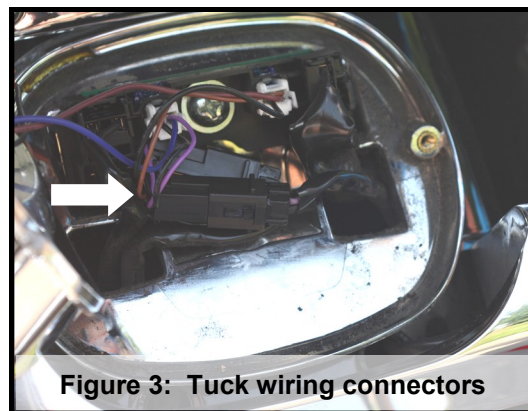

Figure 3: Tuck wiring connectors
8. Tuck connectors into the center space in the center of the base. Make sure there is enough space to allow installation of the taillight. (See Figure 3)